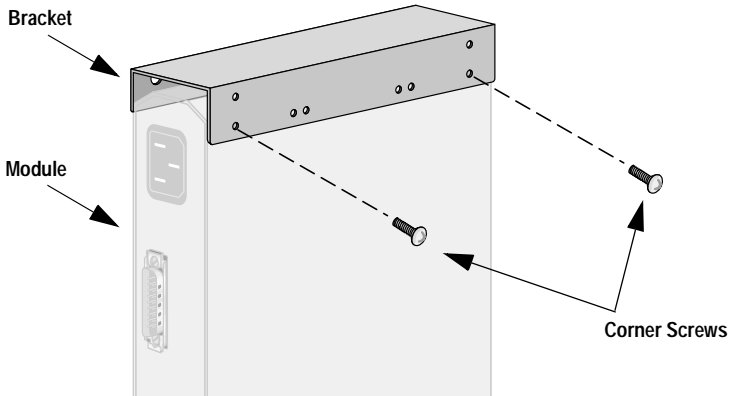

Figure 2 Attaching a Bracket on a Standard Module
- a. Align one end of the module to the pre-drilled holes on the bracket. Refer to Figure 2.
3. Align one end of the module with the pre-drilled holes on the bracket. Refer to Figure 2.